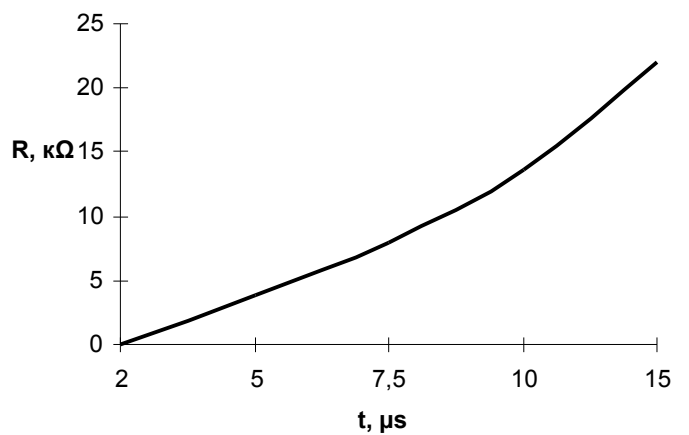

Figure 10 – “Dead time” duration versus trimming resistor  $R_{dt}$  nominal
| «Dead time» between signal changes of the first and second output channel | $t_{TD}$       | V          | 2     |      |      | Set by consumer;ref. to Figure 10 |
If there is no need for increasing of switching delay time, then you shall install the jumpers instead of resistors. The dependence of delay time on the resistor nominal is shown at Figure 10. Initially the resistors of 1  $\Omega$  nominal are installed that corresponds to minimum “dead time” (2  $\mu$ s).
- set up “dead time” by Rdt resistors in compliance with the Figure 10;